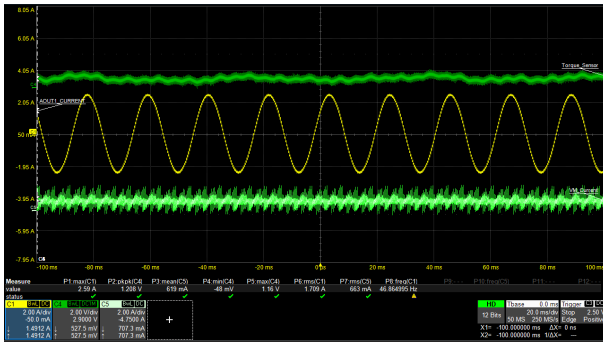
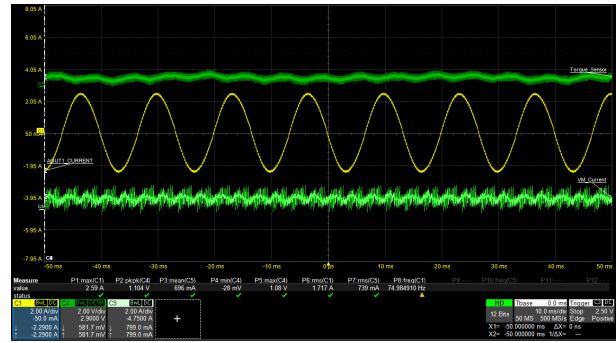
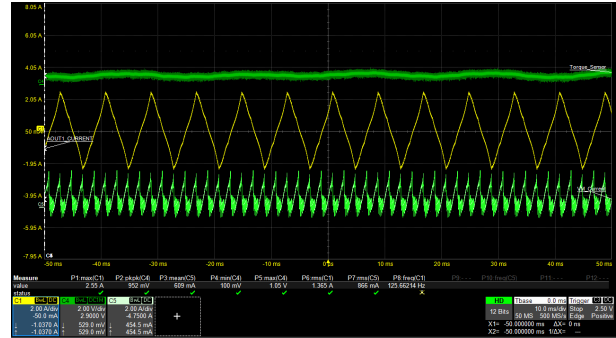

Figure 2-30. 3000 pps Step Frequency
Figure 2-31. 4800 pps Step Frequency
Figure 2-33. 8000 pps Step Frequency
- The segment with lesser slope corresponds to sinusoidal current waveforms, as shown in Figure 2-30 and Figure 2-31.
- At higher speeds, when the current waveform starts becoming triangular (as shown in Figure 2-31 and Figure 2-33), the ATQ\_CNT vs. speed plot has a steeper slope.